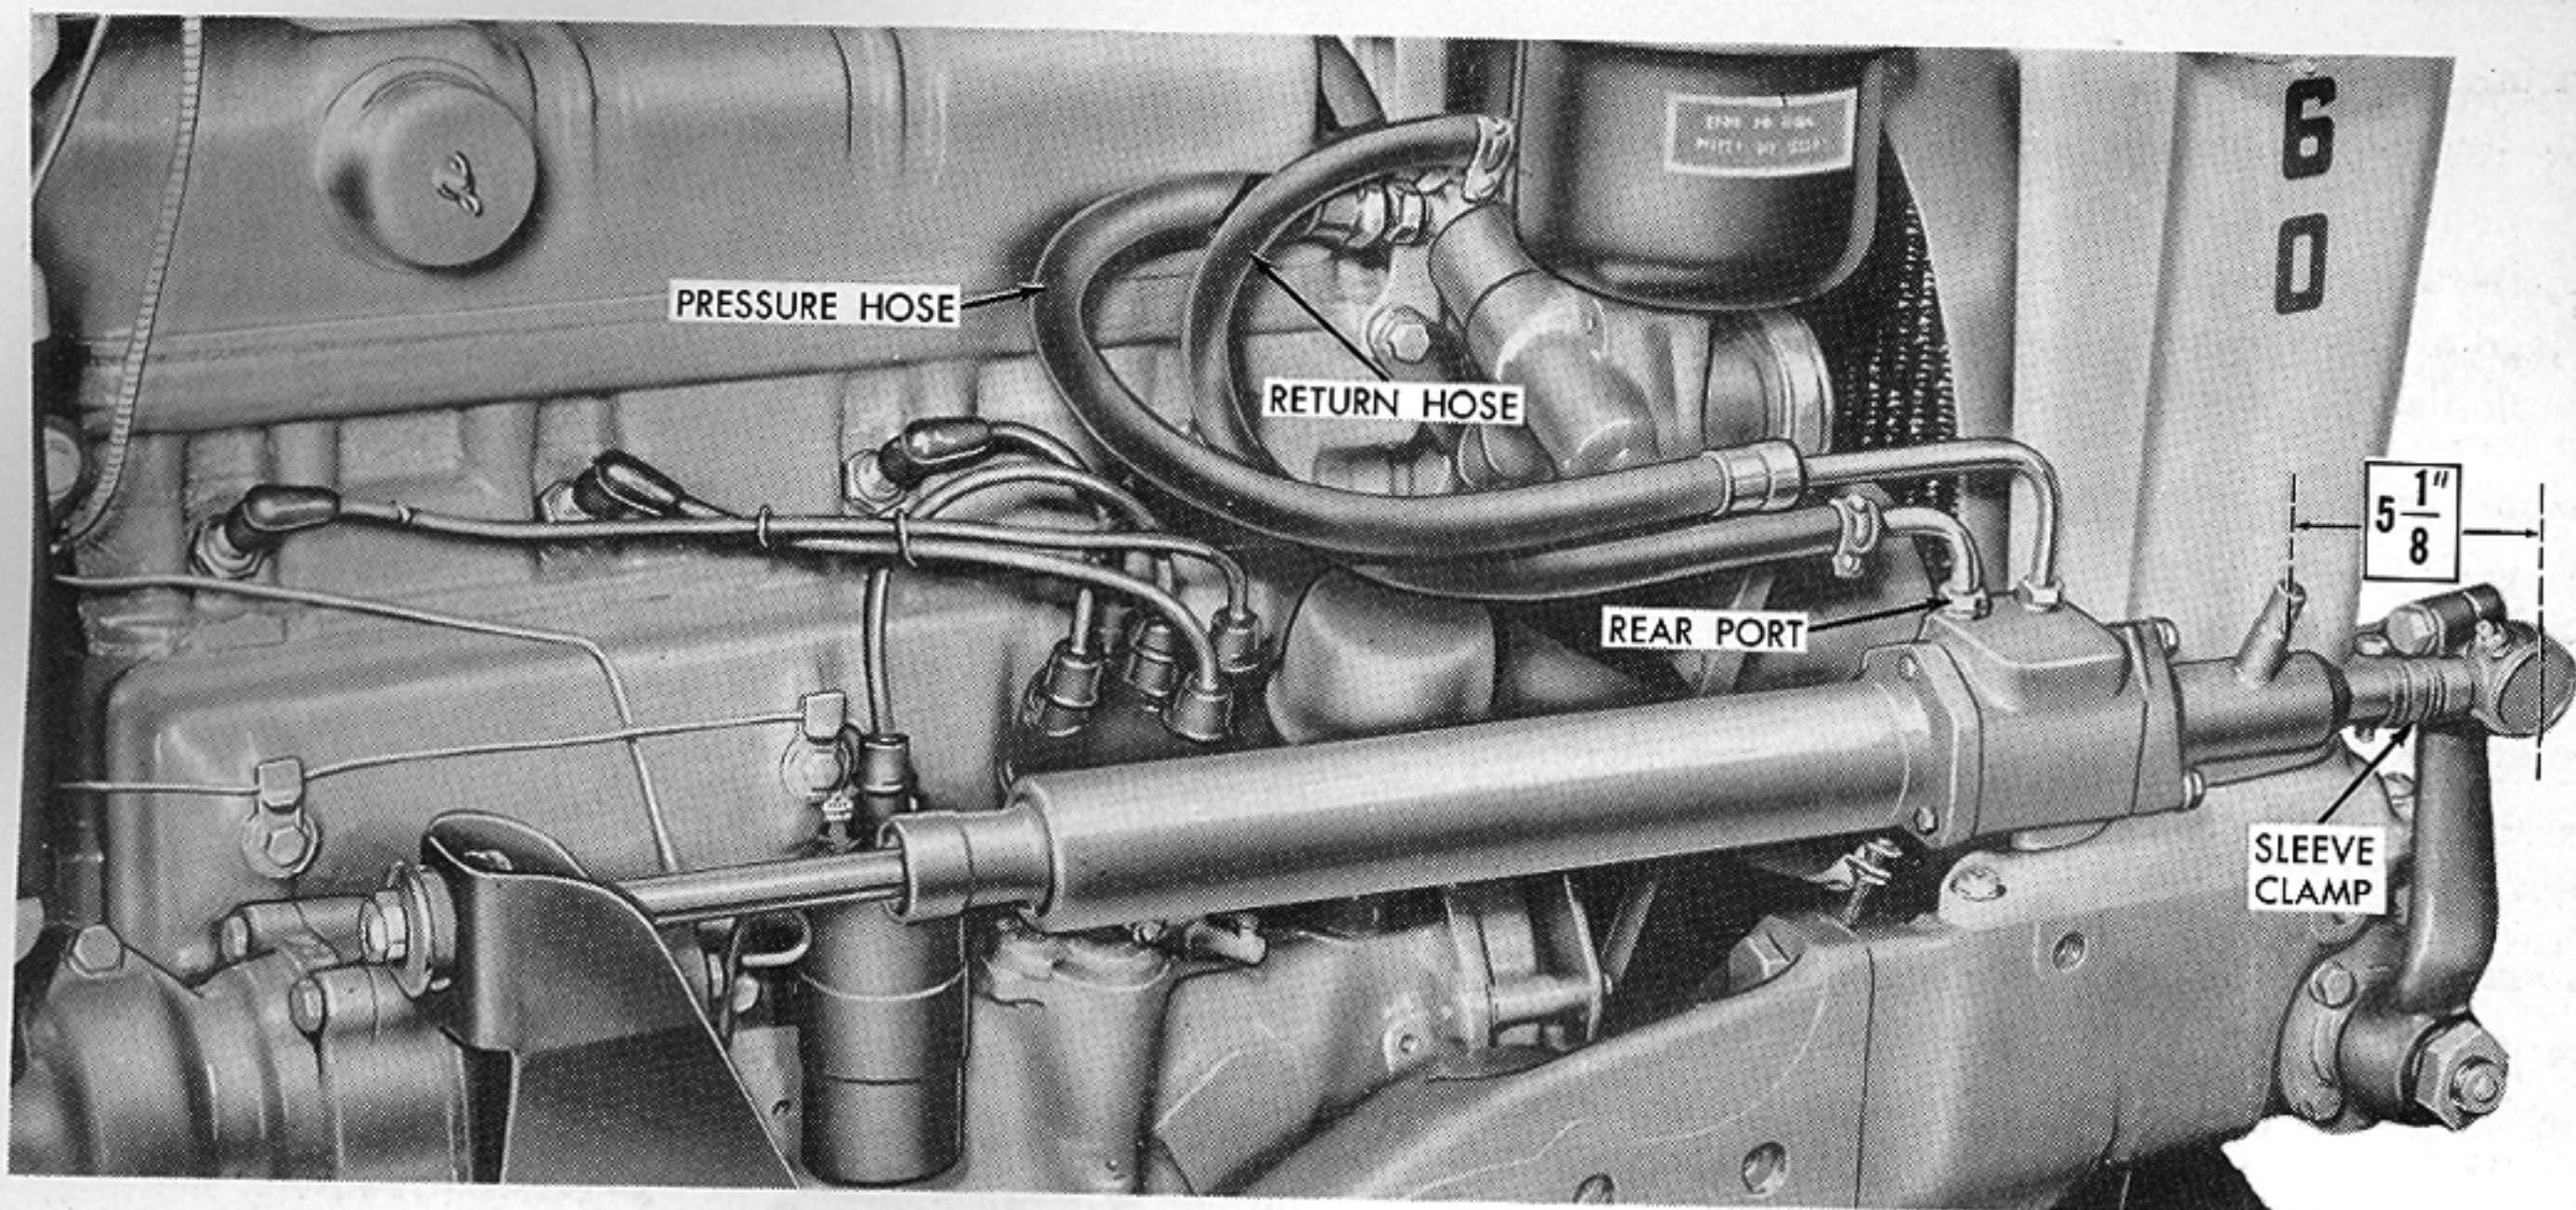

Figure 14—Cylinder and Valve Assembly Adjustment
- a. Jack the tractor sufficiently high to free the front wheels and align the front steering arm vertically as shown in Figure 14.
5. Adjust the distance from the center of the cylinder steering ball stud, to the center of the front ball stud by loosening the clamp at the outer sleeve end of the cylinder assembly and rotating the cylinder assembly. The distance between these centers should be  $5\frac{1}{8}$  inches as shown in Figure 14. The face of the valve housing (containing the oil ports) should be on a horizontal plane when this measurement is made and the clamp tightened.
6. Install the return hose (connected at one end to the pump reservoir) to the rear port of the control valve assembly (see Figure 14) and tighten with a hose clamp.